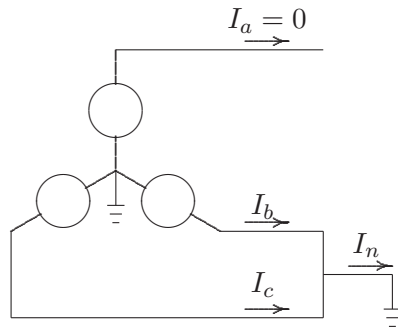

FIGURE 80
10.5. In the three-phase system shown in Figure 80, phase *a* is on no load and phases *b* and *c* are short-circuited to ground.